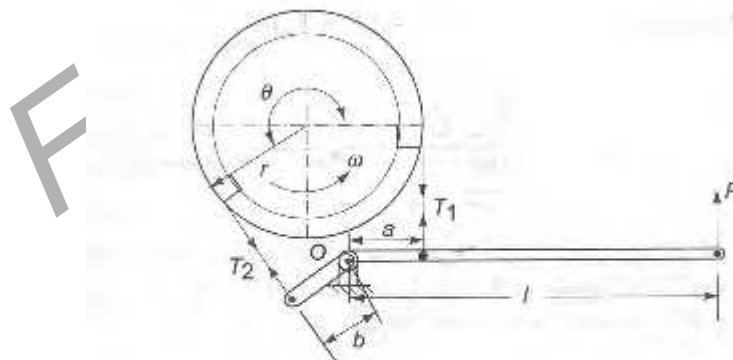

Figure 1:
- (b) In the differential band brake, as shown in Figure 1 the diameter of the drum is 900 mm, and the coefficient of friction between the drum and the band is 0.3. The angle of contact is 240° . When a force of 650 N is applied at the free end of the lever, find the maximum and the minimum force in the band, and the torque which can be applied by the brake.